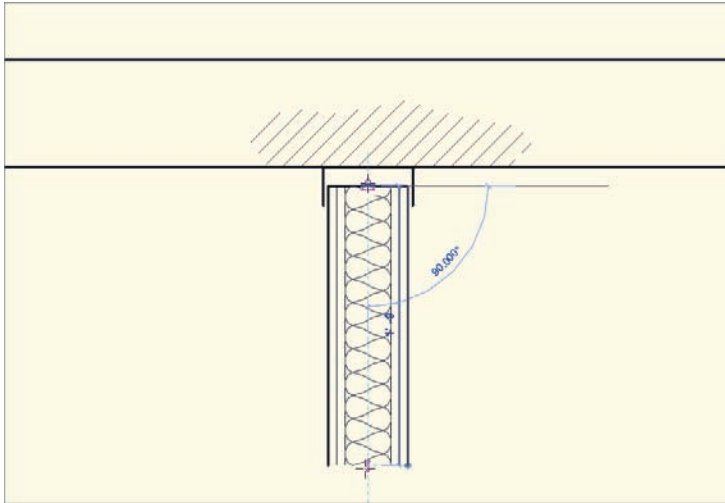

FIGURE 12.79 Drawing the insulation
5. Place the insulation starting at the midpoint of the top of the stud, and terminate the insulation at the bottom of the stud, as shown in Figure 12.79. Note that you were lucky the width fit perfectly. If it hadn't, you could have changed the width on the Options bar.